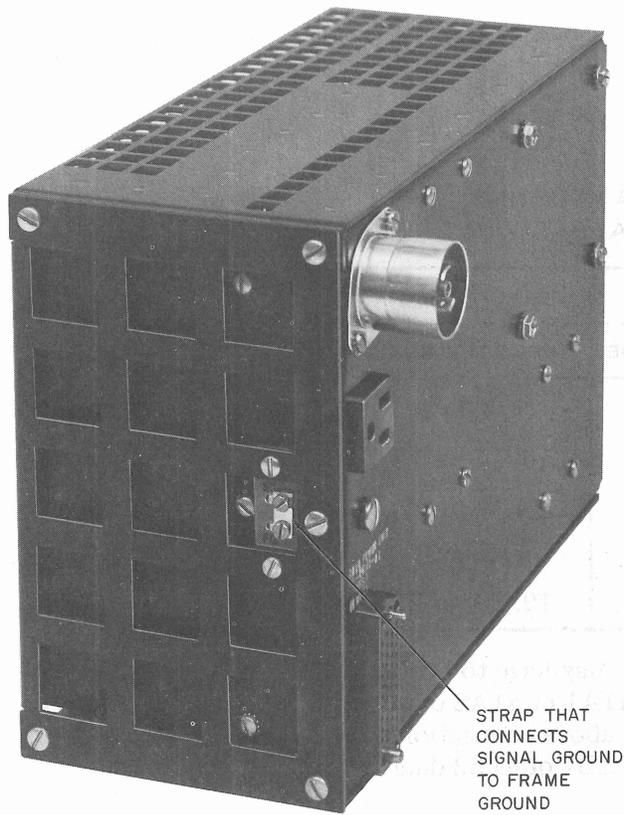
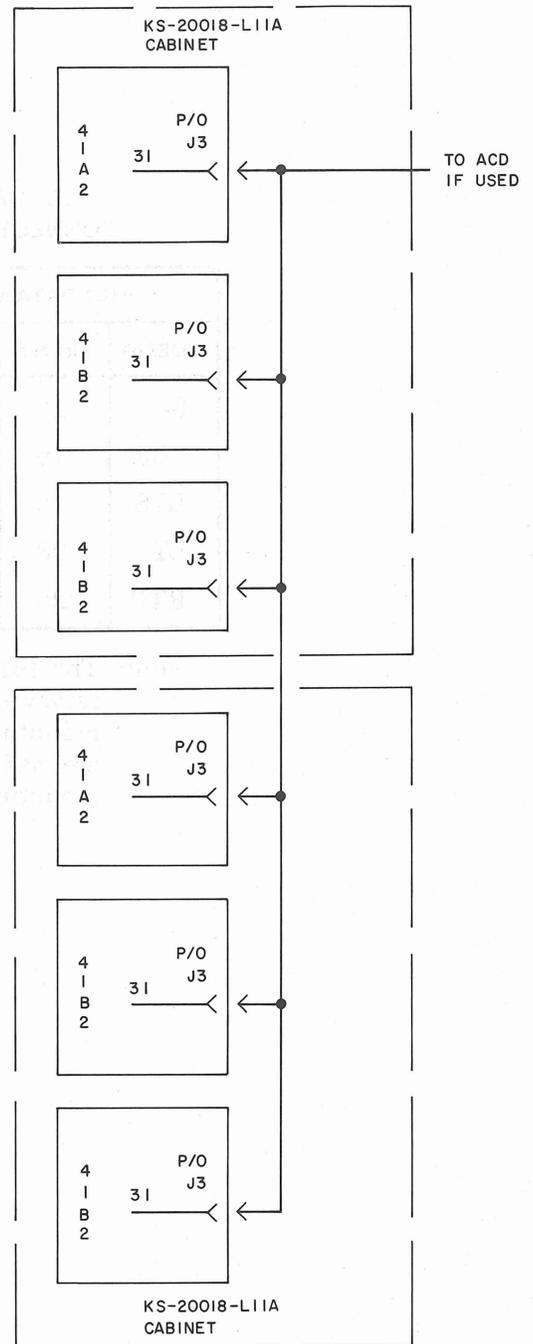

Fig. 3—Rear View of 101A Power Unit
Fig. 4—Station Wiring When Frame Ground and Signal Ground Are Disconnected (Multiple Cabinets) (Option JJ)
- 3 Verify that terminals E16 and E17 on 101A power unit are connected together (option HH) per Fig. 3. If the service order or circuit layout record card requires that signal ground **not** be connected to frame ground (optional JJ), remove the strap between E16 and E17 on 101A power unit per Fig. 3. Strap terminal 31 of 41-type data mounting(s) as shown in Fig. 4.